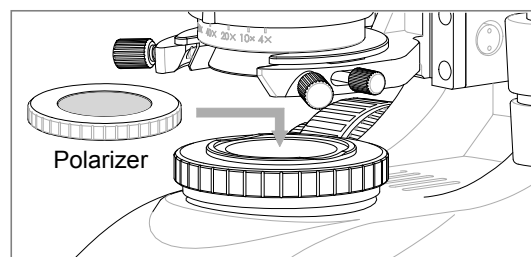

Fig.5-2
Putting polarizer on the field diaphragm ⑦, just hitching the filter holder's outer ring. (Fig. 5-2)